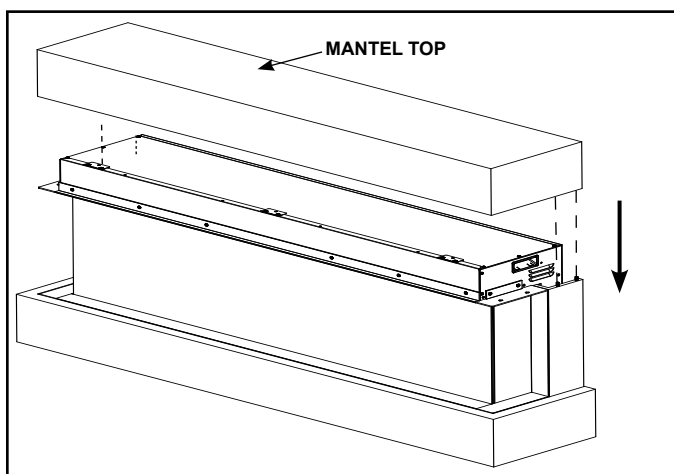

Figure 18
10. Attach the mantel top to the mantel side panels by aligning the holes in the mantel top with the dowels. See Figure 18.